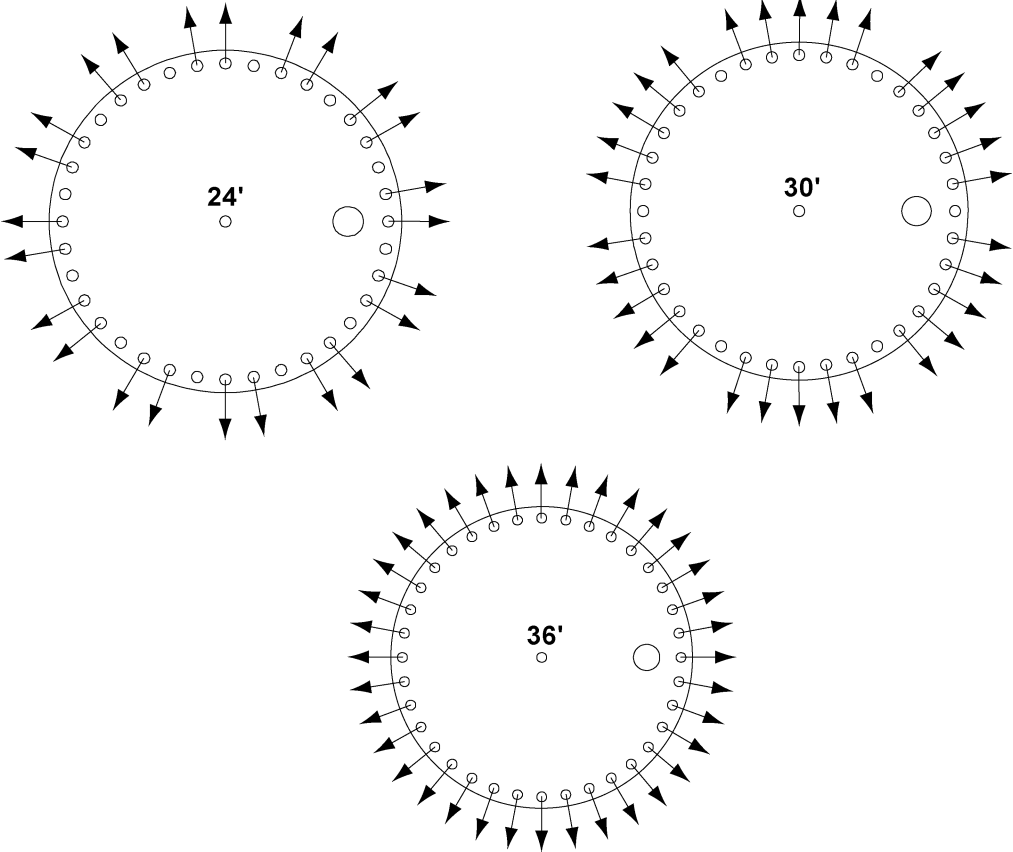

Figure 4C
1. The chain (C) is connected to a cable with a turnbuckle (D). The cable travels up the outside of the bin to the chute pulley on the bin eave and goes through the sidewall sheet into the bin to the center collar and down to the chain plate. (See Figure 4C on Page 10.) The plate is connected to the chutes via chains. The controller retracts the cable to close the chutes or extends the cable to open the chutes.